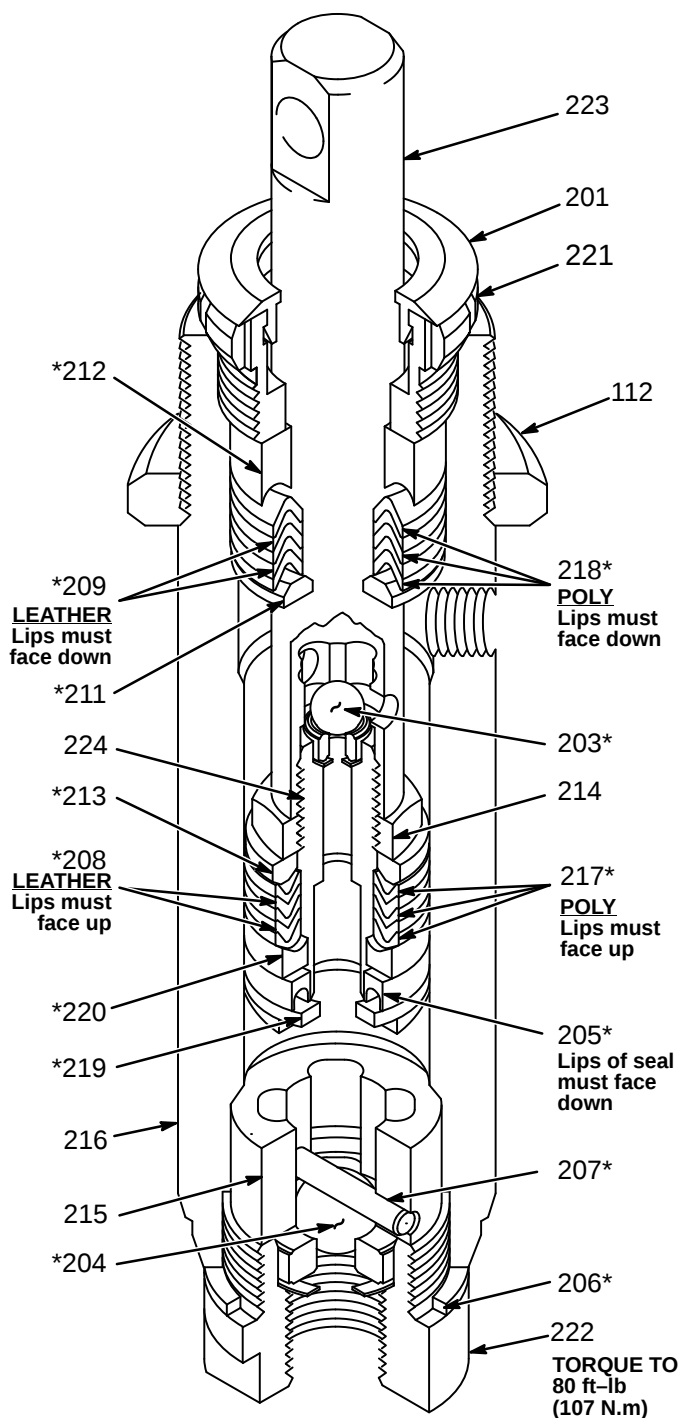

Fig 19-1
1. Stack these parts one at a time onto the piston valve (224): backup washer (219*), U-cup seal (205*) *lips down*, and female gland (220*), alternate the polyethylene and leather v-packings (217*, 208*) *lips up*, and then the male gland (213*). See Fig 19-1.
5. Stack these parts one at a time into the top of the cylinder (216): male gland (211*), alternate the polyethylene and leather v-packings (218*, 209*) *lips down*, and then the female gland (212*). See Fig 19-1.
6. Loosely install the packing nut (221) and plug (201).
7. Insert the oiled piston rod (223) through the bottom of the cylinder.
8. Assemble the intake valve. Use a new gasket (206*). Screw the intake valve into the cylinder and tighten to 80 ft-lb (107 N.m). See Fig 19-1.
9. Screw down the cylinder locknut (112) until it is finger tight at the bottom of the external cylinder threads. See Fig 19-1.